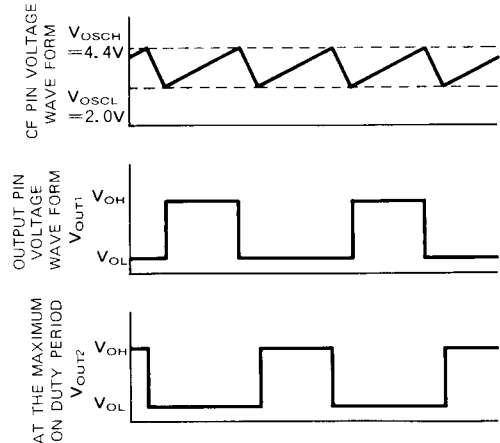

Figure 2 Oscillation wave form in the normal status (when the intermittent action and the oscillation control circuit are not working)
Here, V_{T-OFF} (voltage at T-OFF pin) is about 3.0V. The period of the oscillation wave form is the sum of equations (2) and (4). The oscillation wave form becomes triangular as shown in Figure 2.
(2) The operation of the oscillation circuit when the intermittent action and the control circuit are working